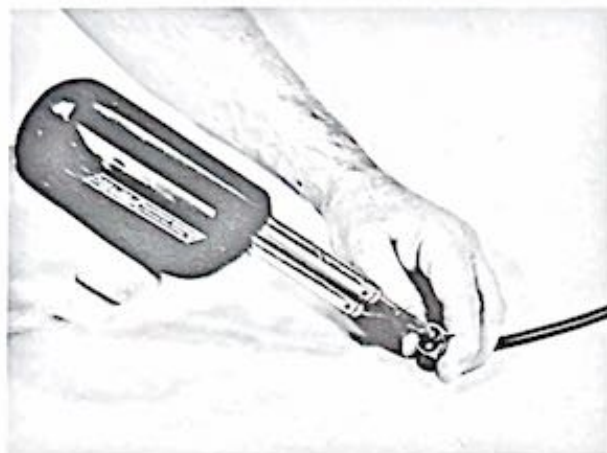

Figure 1-41. Unsoldering headlight wires from socket
(6) Reassemble the parts to the motor housing as directed in paragraph 1-21.
(7) Connect the leads to the foot switch as directed in paragraph 1-14b; install the foot switch as directed in paragraph 1-14c.
(8) If replacement of the headlight socket only is indicated, this can be accomplished by unsoldering the lamp contact points in the base of the socket as shown in figure 1-41. Discard the old socket and attach a new or serviceable replacement socket to the leads.